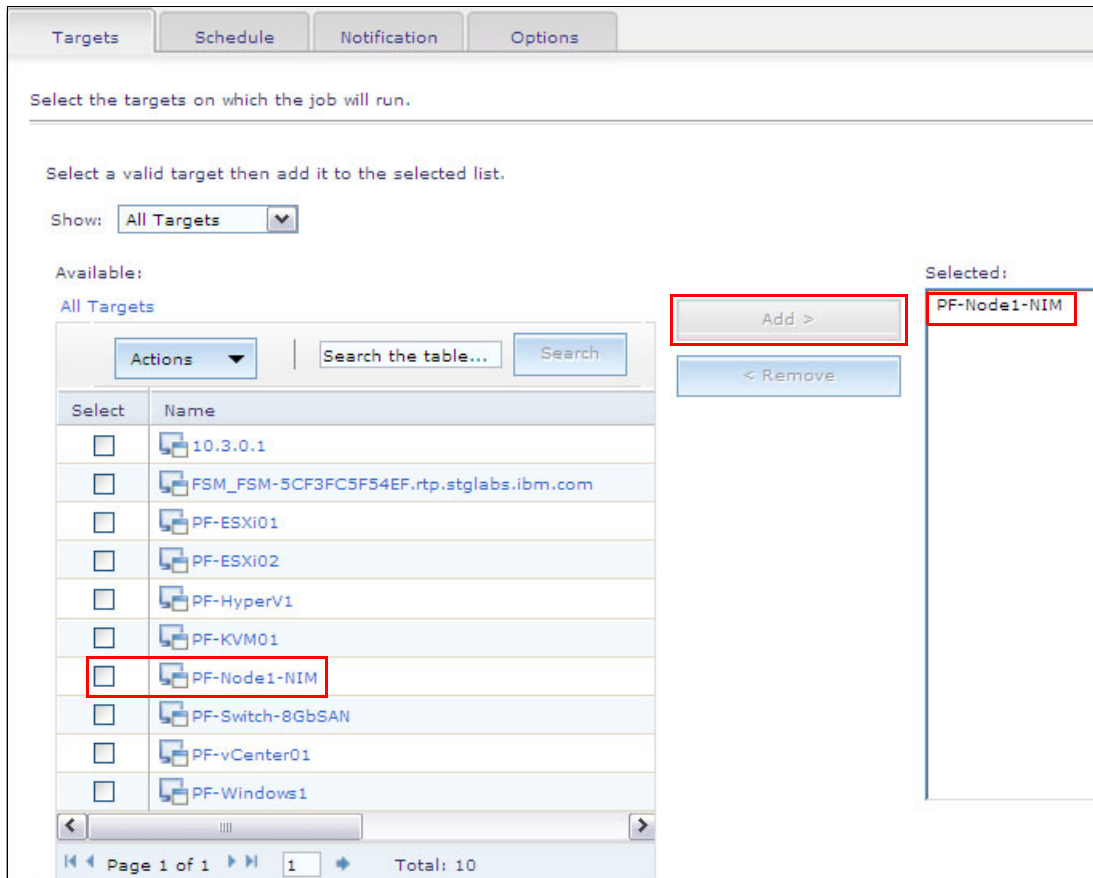

Figure 10-51 Agent Installation window
5. Select the NIM server for agent installation, then click **Add**, as shown in Figure 10-51.